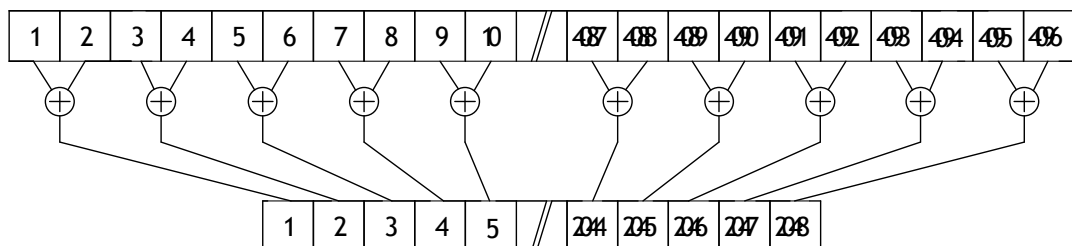

Fig.25 Binning reads out adjacent pixels at the same time
- Area :** This command specifies the area in which pixel shifting will be applied. The image is divided into 16 blocks, with each block representing 256 pixels. Enter a number from 1 to 8 to specify the inner edge of the pixel shifted area. The value is automatically mirrored on both the left and right sides of the image. If the left side pixel value is +/-1, only Area setting (1 to 6 blocks in fig. 25) is used and all pixels in this area will be shifted by 1 pixel. All pixels outside this area (7 and 8, white blocks) will remain unshifted. If the left side pixel value is +/-2 or +/-3 use the 2nd Pixel Block and 3rd Pixel block fields to define a gradual shift from the edge to the center of the image.
- 2nd pixel block :** If the left side pixel value is 2 or more pixels, enter a number in this field to specify the block where the compensation will transition from a 2-pixel shift to a 1-pixel shift. The value entered is automatically mirrored on both the left and right sides of the image. Blocks 1 to 4 in fig.25, are where the 2 to 1-pixel shift will be applied.